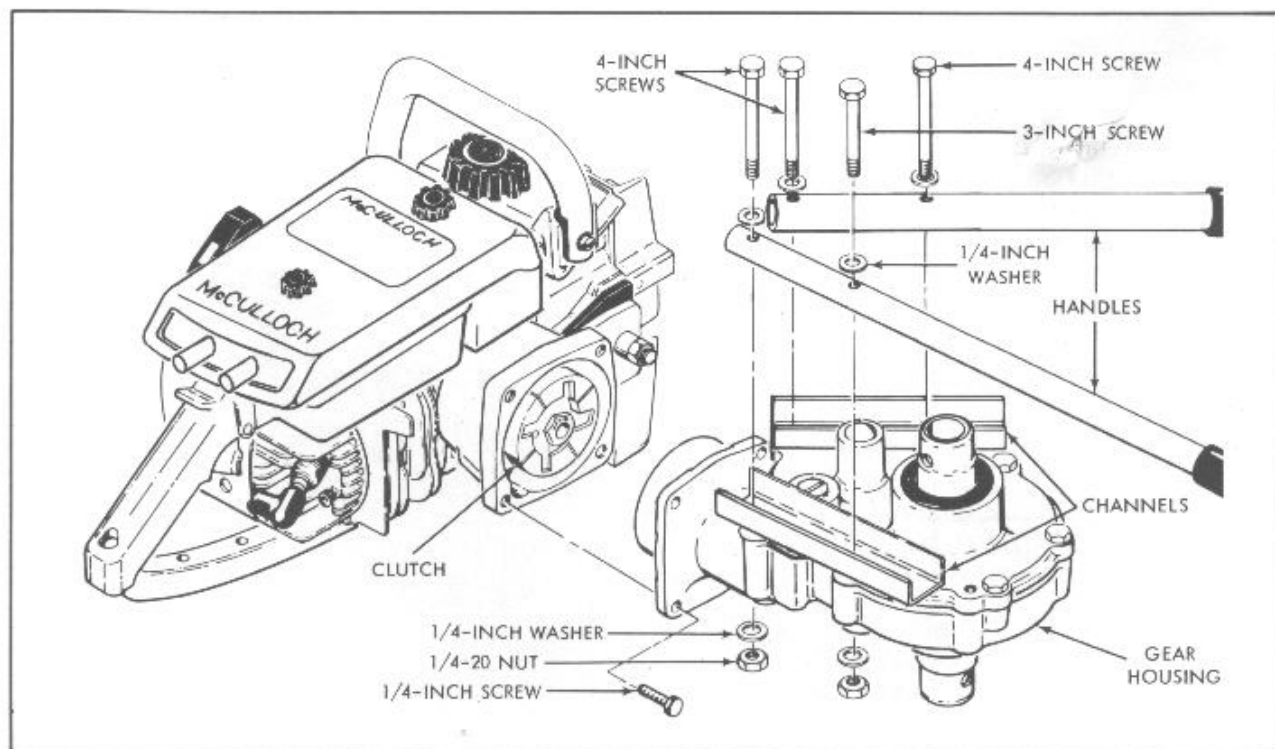

Figure 6. Install Gear Housing and Handles
5. Mount the gear housing on the adapter with the four 1-inch long screws (figure 6). Make sure the screws are tight.
6. Mount the handles in the channels on the cover, using the screws, nuts and washers fastening the channels to the cover (figure 6).